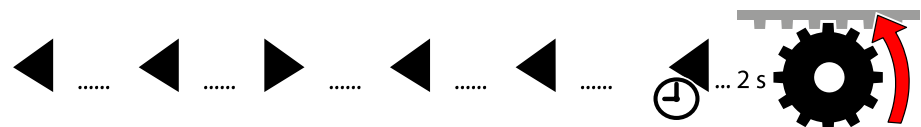

Fig. 103: Limit position setting – Deleting the left limit position
- ➔ Move to the left limit position and delete both limit positions with the following key combination (see Fig. 103).